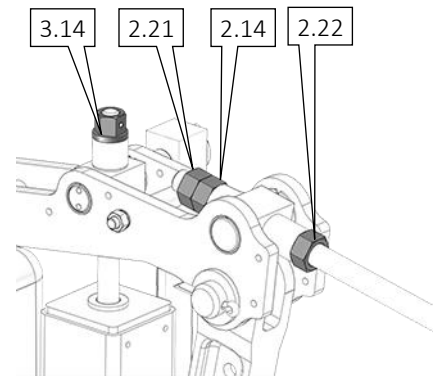

Figure 12
- 3 Turn Nut (2.14) clockwise until the piston rod of the thruster (see *Figure 12*) has reached the necessary value $S = S_1$ (see *Table 6: Reserve stroke*) while the brake is closed.